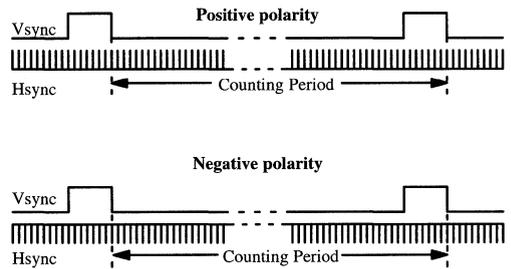

Figure 9. Hsync frequency measurement
- In the third interrupt of the cycle, timer 0 is programmed to be used as external event counter with Hsync clock. TR0 bit is set to start counting. In the fourth interrupt (last of the measurement cycle), TR0 bit is reset to stop counting. At this time, TH0 and TL0 registers contain a representative value of the Hsync period that is the number of Hsync pulses during a Vsync period (see Figure 9). A flag is set to inform main program of the end of cycle.